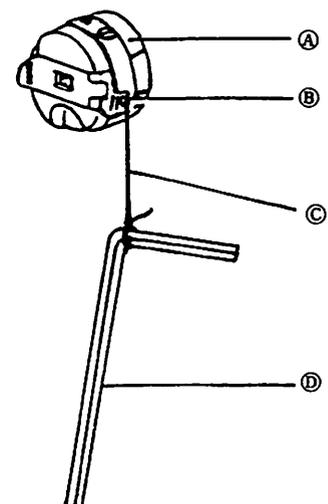

Fig. 10.8
- (2) Tie a hexagon key wrench (D) (furnished) to the thread (C) to hang the key wrench, as shown in Fig. 10.8. The standard bobbin thread tension is that the thread is gradually unwound when the bobbin case is vertically swung.